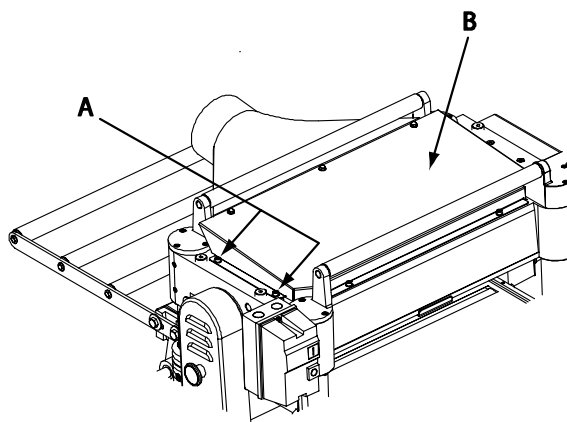

Figure 18
2. Remove the six screws (A, Fig. 18) and remove upper cover (B, Fig. 18).
2. Remove six screws and upper cover (see Fig. 18).